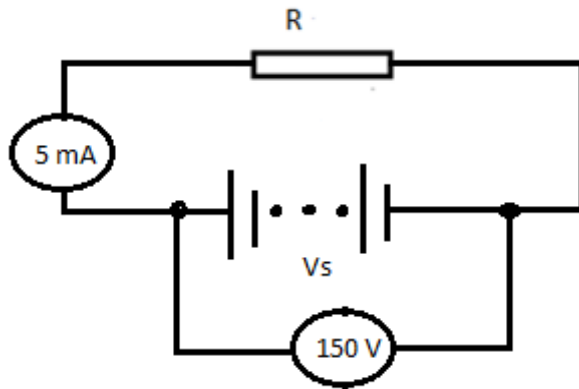

FIGURE 3.1:SIMPLE CIRCUIT
- 3.6 The ammeter and voltmeter in Figure 3.1 reads 5 mA and 150 V respectively. Calculate the value of the resistor. (3)